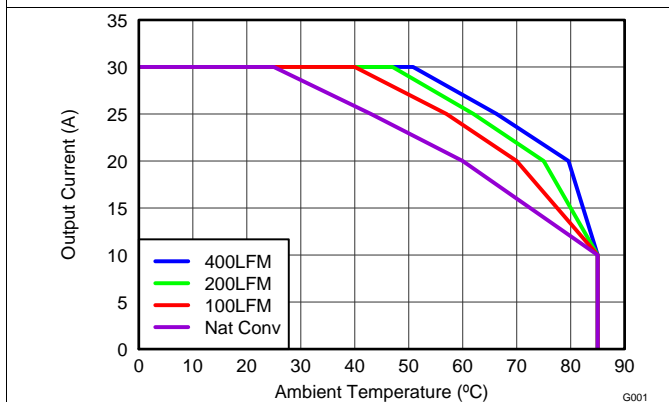
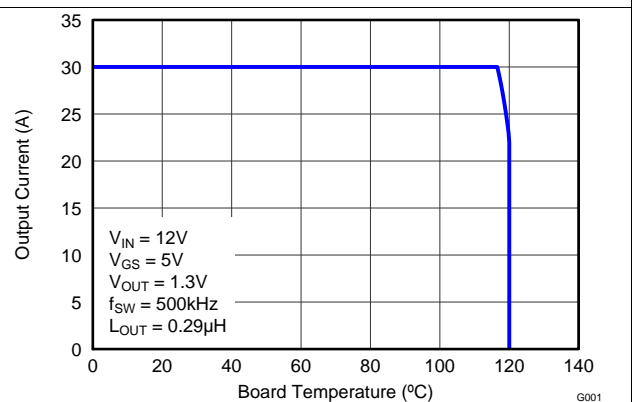

Figure 3. Safe Operating Area – PCB Horizontal Mount
Figure 4. Typical Safe Operating Area
$T_j = 125^{\circ}\text{C}$, unless stated otherwise. For Figure 3 and Figure 4, the Typical Power Block System Characteristic curves are based on measurements made on a PCB design with dimensions of 4.0 inches (W) x 3.5 inches (L) x 0.062 inch (H) and 6 copper layers of 1 oz. copper thickness. See Application and Implementation for detailed explanation.
$T_J = 125^\circ\text{C}$, unless stated otherwise. For Figure 3 and Figure 4, the Typical Power Block System Characteristic curves are based on measurements made on a PCB design with dimensions of 4.0 inches (W) x 3.5 inches (L) x 0.062 inch (H) and 6 copper layers of 1 oz. copper thickness. See Application and Implementation for detailed explanation.
The SOA curves in the CSD87384M data sheet provide guidance on the temperature boundaries within an operating system by incorporating the thermal resistance and system power loss. Figure 3 to Figure 4 outline the temperature and airflow conditions required for a given load current. The area under the curve dictates the safe operating area. All the curves are based on measurements made on a PCB design with dimensions of 4 inches (W) × 3.5 inches (L) × 0.062 inch (T) and 6 copper layers of 1 oz. copper thickness.